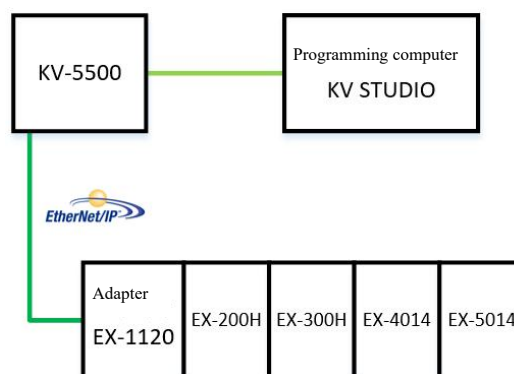

Figure 5-7-37 Communication connection diagram
1. Communication connection diagram, as shown in Figure 5-7-37